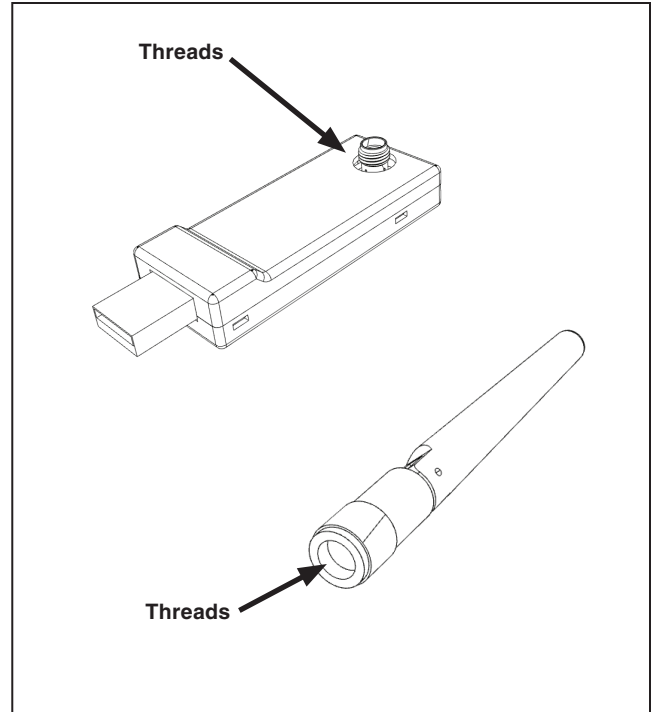

Figure 1. Antenna assembly.
- STEP 1.** Screw the threaded bottom of the antenna into the threaded connector on the USB transceiver. See Figure 1.